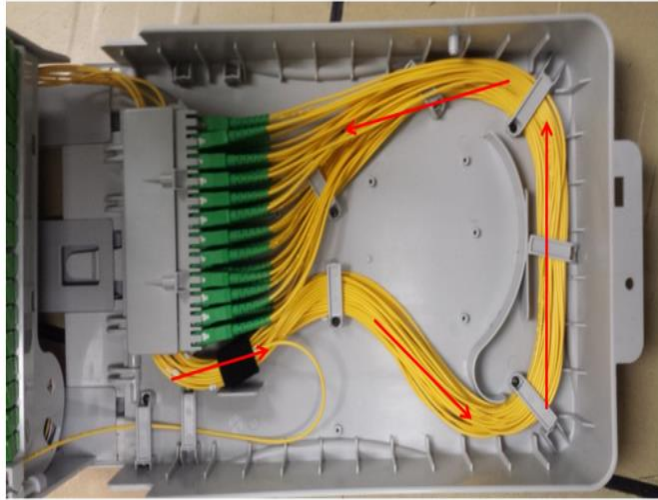

Fig. 27 Fiber units routing
- 3.7.5. Attach the fibers with Velcro. Route the fiber units following the path shown in Figure 27. Plug the connectors to the parking holder as shown.